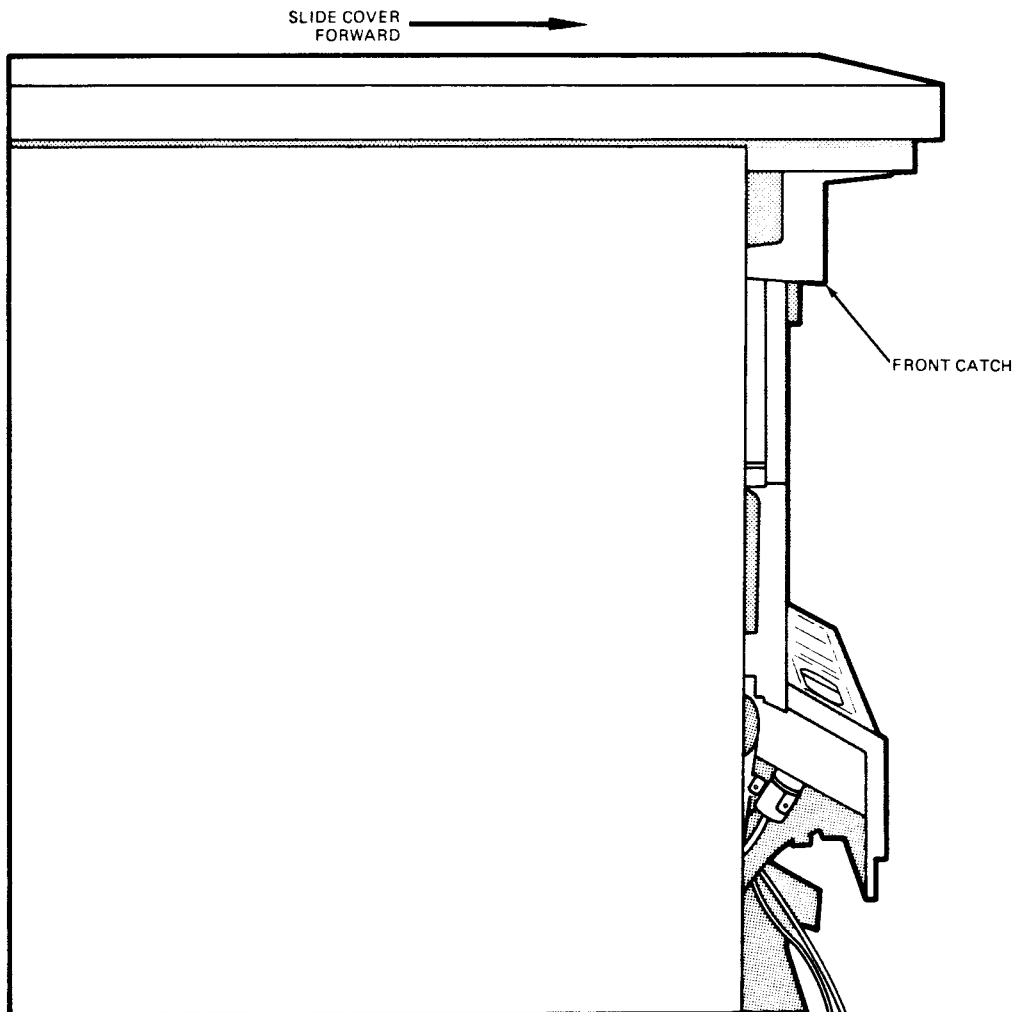

Figure C-4. Sliding the Cover Forward
4. Slide the cover forward to disengage the front catch (see Figure C-4).
9. Replace the top panel and slide it back into place (see Figures C-4 and C-5).